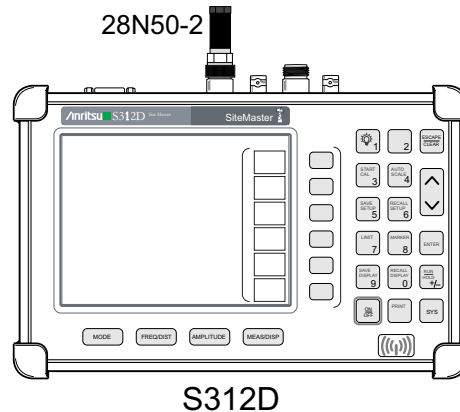

Figure 2-10. Spectrum Analyzer Residual Spurious Response Verification Test Setup
1. Connect the 28N50-2 50 Ohm termination to the S312D Spectrum Analyzer RF In. (Refer to Figure 2-10.)